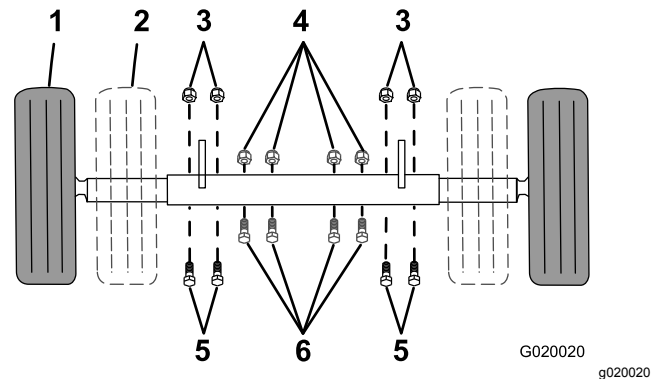

Figure 22
1. Connect the electrical plug of the machine with the electrical plug of the tow vehicle (Figure 22).
If your model is equipped with an adjustable axle (Figure 22), you can adjust the axle to the narrow position to move the machine through a narrow access point, such as the gate of a fence or the doorway of a building.
1. Support point (2)
7. Remove the bolts and nuts that secure the inner axle to the outer axle (Figure 22).
- Slide each side of the axle inward to the narrow position (Figure 22).
- Slide each side of the axle outward to the wide (tow) position (Figure 22).
9. Secure the axle with the bolts and nuts removed previously (Figure 22) and torque them to 87 N·m (64 ft-lb).